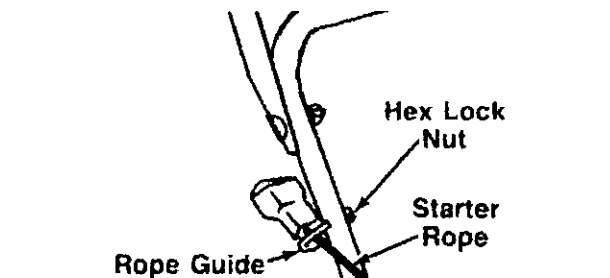

FIGURE 7.
3. Place the rope guide around the starter rope, so the rope guide is positioned as shown (bends downward slightly). Insert the rope guide through the right side of the lower handle, and secure with hex lock nut. See figure 7.